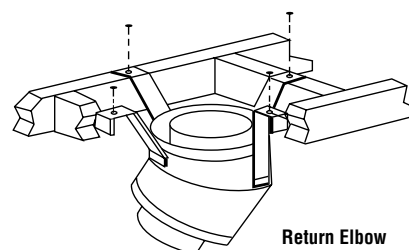

Figure 41
Step 5. Secure support straps to framing members by nailing under tension in shear (*Figure 41*).